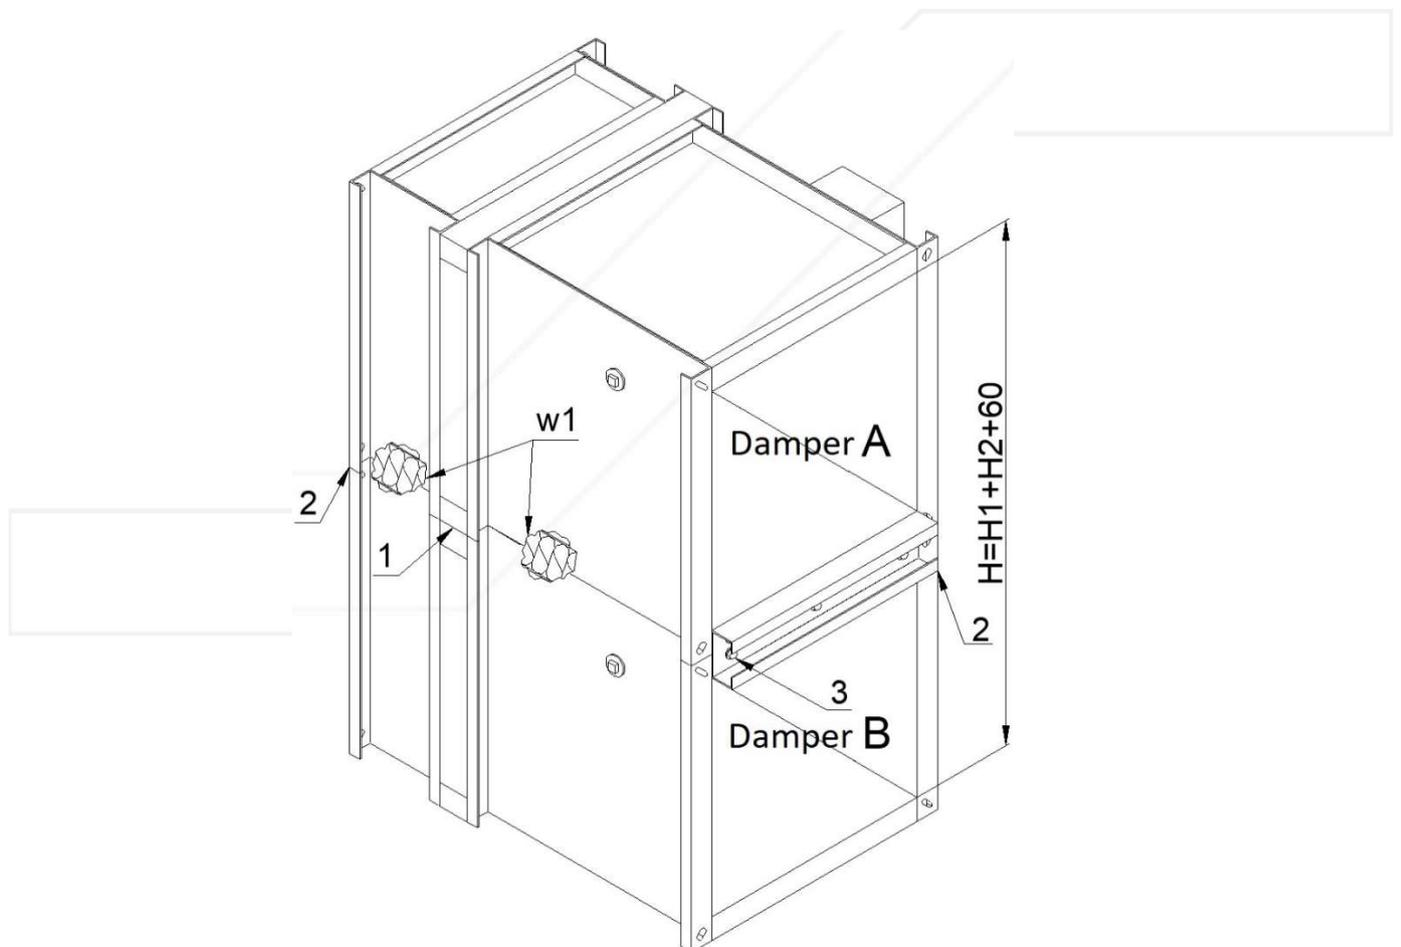

Figure 12. Arrangement 1 - vertical battery consisting of two fire dampers KWP
**Arrangement 1** – vertical battery consisting of two fire dampers KWP (Figure 12)
- a. Fix the gasket on insulating spacer of one of adjoining fire dampers (position (1) in the Figure 12).
- c. Place the fire damper A on the fire damper B and assemble them together on the front and back with use of perforated assembly strips (2) and self-tapping screws M6x10 (3), which should be tightened into the openings in fire damper body. In order to carry out the correct assembly, 4 self-tapping screws should be used per each assembly strip with length of 1200 [mm].